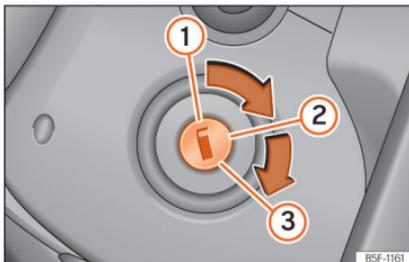

Fig. 209 Ignition key positions.
Key positions »» Fig. 209
- Turn the key to position »» **Fig. 209** . Preheating occurs in diesel vehicles .
- Keep turning the key to position »» **Fig. 209**  without stepping on the accelerator.
- *Vehicles with ignition locks:* Turn the key to position » **Fig. 209** .